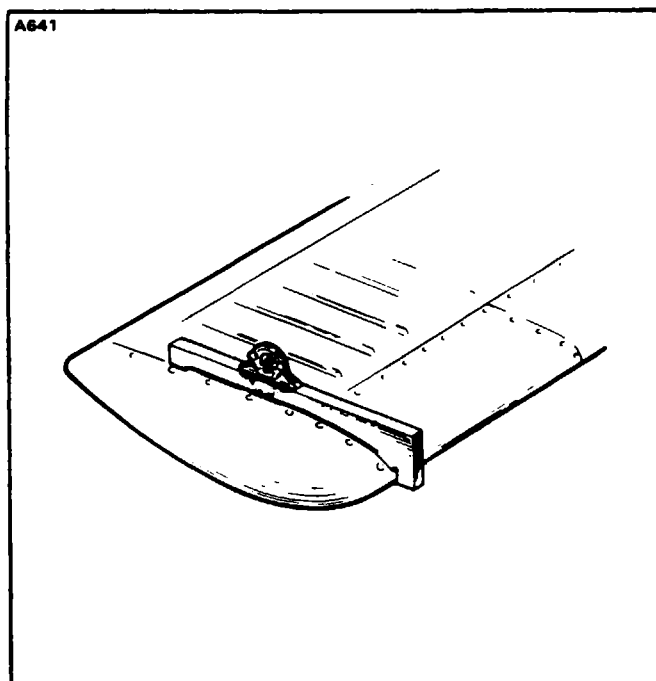

Figure 5-6. Stabilator Rigging Tool
3. Check the stabilator travel by placing a rigging tool on the upper surface of the stabilator as shown in Figure 5-6.